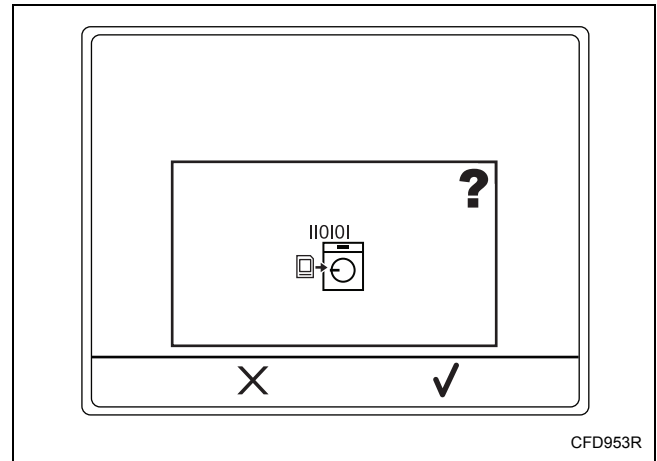

Figure 60
1. Cancel load and replace by pressing the keypad below the X. Refer to *Figure 60*.
2. Confirm by pressing the keypad below the Check icon. Refer to *Figure 60*.